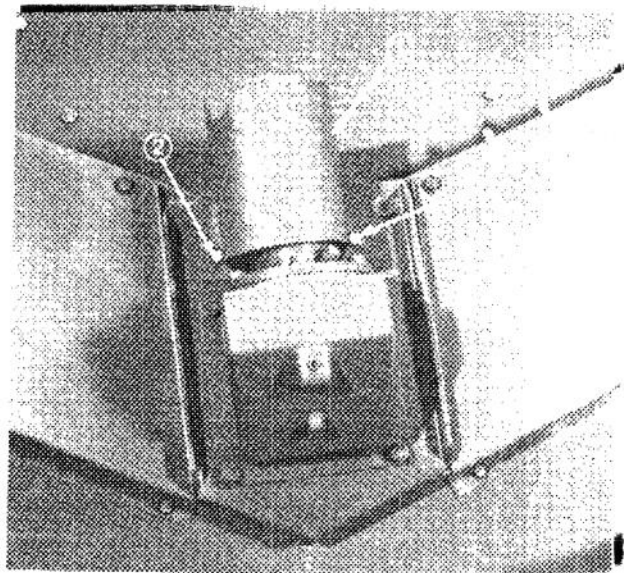

Figure 8
2. Remove two self-tapping screws holding PTO shield to top of gear box mounting plate (Fig. 8). Move cutting unit into position in front of traction unit.